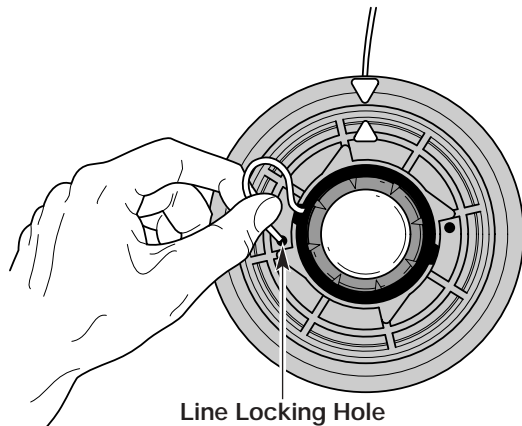

Figure 17
5. Insert the line into the locking hole. Do not push the line more than a 1/2 inch (12.7 mm) into the line locking hole. The line will form a small loop when it is inserted correctly. See Figure 17.